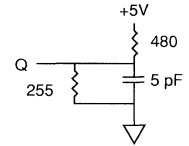

Fig. 2 OUTPUT LOAD EQUIVALENT
6. tHZCE and tHZWE are specified with CL = 5pF as in Fig. 2. Transition is measured ± 500mV from steady state voltage.
12. Chip enable (CE) and write enable (WE) can initiate and terminate a WRITE cycle.